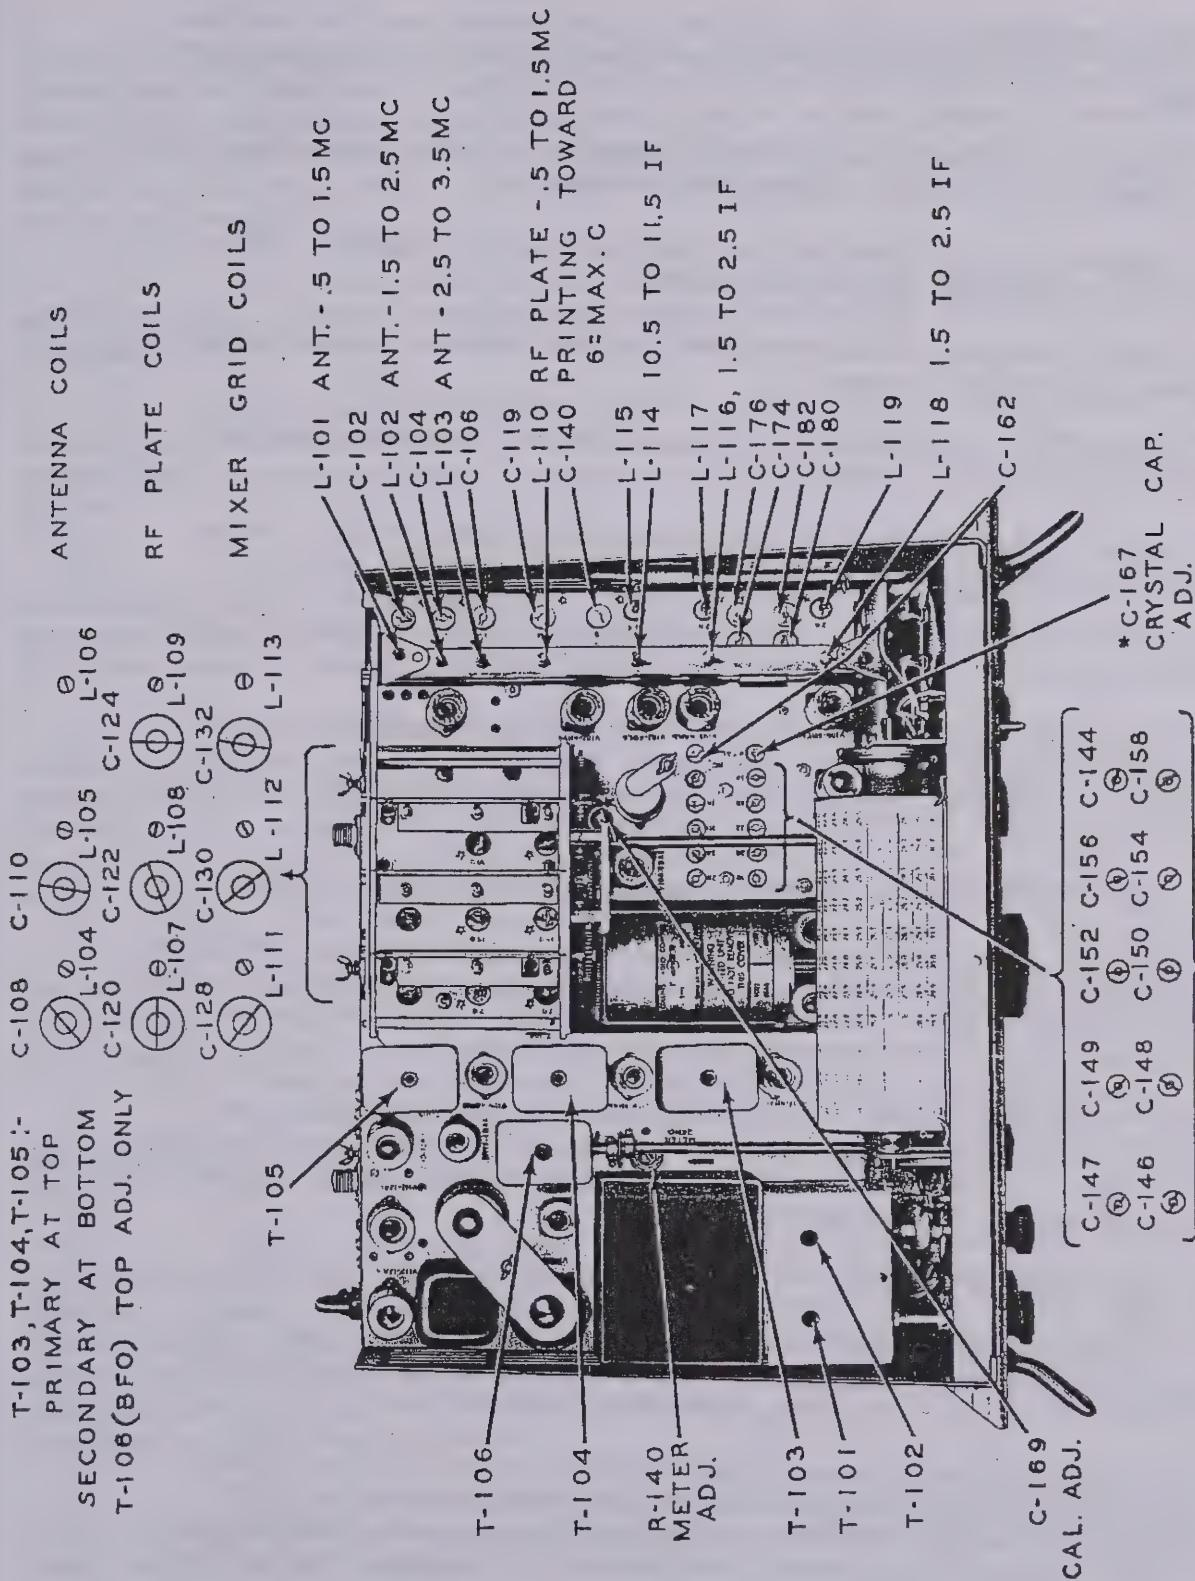

Figure 5-1. 51J-3 Alignment Adjustments
(c) In all of the following adjustments, peak the trimmers if the indicated voltage is not more than 2 volts. If it is more than 2 volts, detune trimmer toward minimum capacitance, until the voltage reads 2. See figure 5-1.
(h) If the BFO PITCH knob has never been off the shaft during the life of the receiver, align the BFO as follows. Turn BFO on. Set the line on the BFO PITCH knob at the fiducial mark on the panel. Adjust core in T106 (figure 5-1) to zero beat.
(1) Use an oscilloscope and a frequency-modulated signal generator having a sweep rate of four cycles per second, a frequency excursion of about 20 kc and a carrier frequency between 1.5 and 3.5 mc.
(2) Line up the crystal filter PHASING control knob with the panel mark and with the mid-range position of the phasing capacitor. To accomplish this, with the aid of a flashlight look into the right-hand hole in the top of the crystal filter cover (See figure 5-1) in order to see the